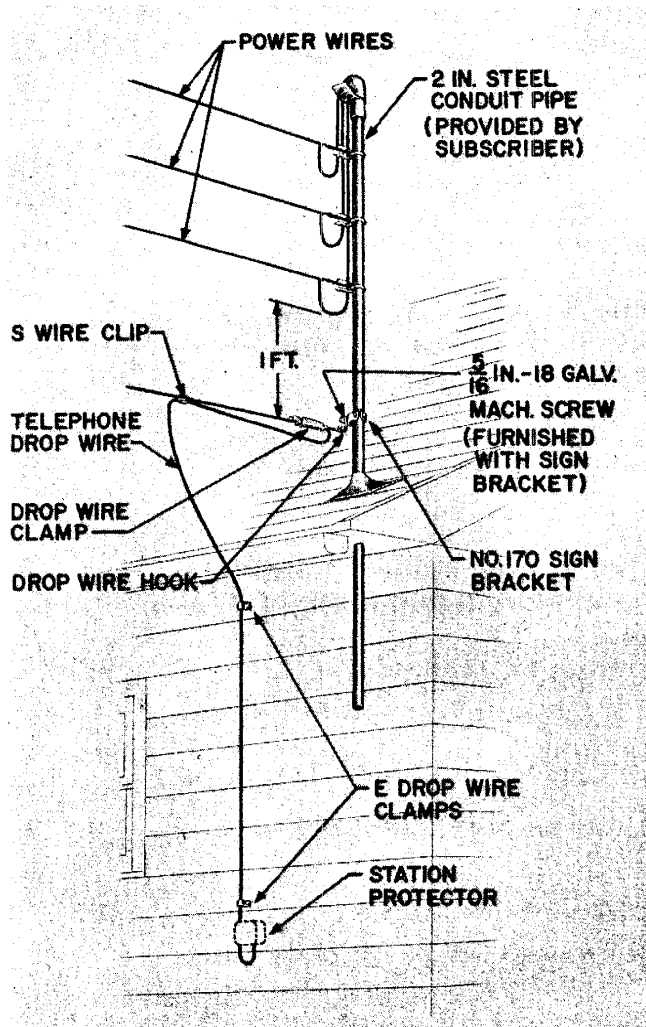

Fig. 10 — Drop Wire Attached to Power Fixture
**6.01** Fig. 10 through 15 show types of clearance fixtures commonly provided by subscribers and the recommended methods of making drop wire attachment. Where other types of fixtures are provided and different methods of making drop wire attachments are required, local instructions should be issued.